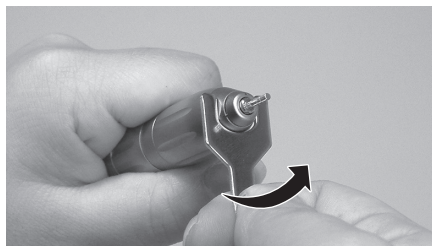

Fig.10
- 1) Fit the cartridge wrench supplied with the handpiece to the flats of the handpiece nose. Turn the cartridge wrench as shown in (Fig.10) after it is loosened, turn the nose by fingers and remove from the handpiece.